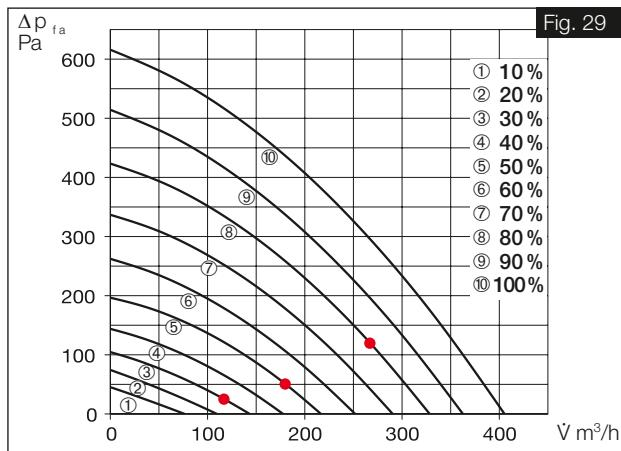

Fig. 29
4. Enter the determined differential pressures from the supply and intake air measurement in the unit characteristic curve for supply air (see Fig. 23 and Fig. 25) according to the fan outputs saved in the ventilation profile (cf. Fig. 28 and Fig. 29).
5. Enter the determined differential pressures from the extract and exhaust air measurement in the unit characteristic curve for extract air (see Fig. 24 and Fig. 26) according to the fan outputs saved in the ventilation profile (cf. Fig. 28 and Fig. 29).